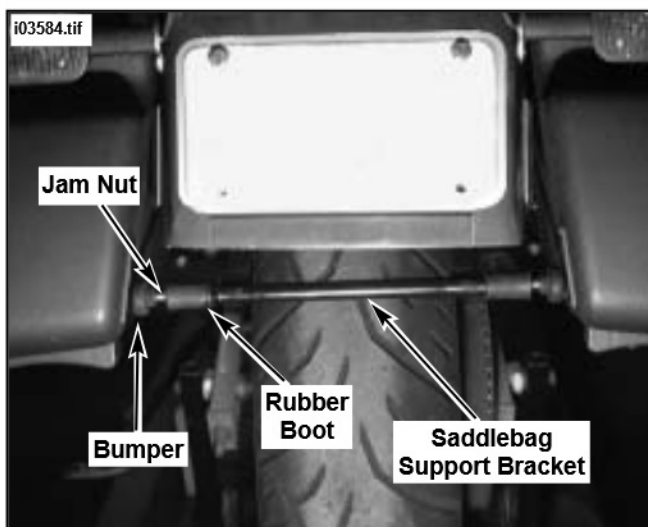

Figure 15 Perform Saddlebag Alignment
29. See Figure 15. Slide rubber boot away from bumper assembly.